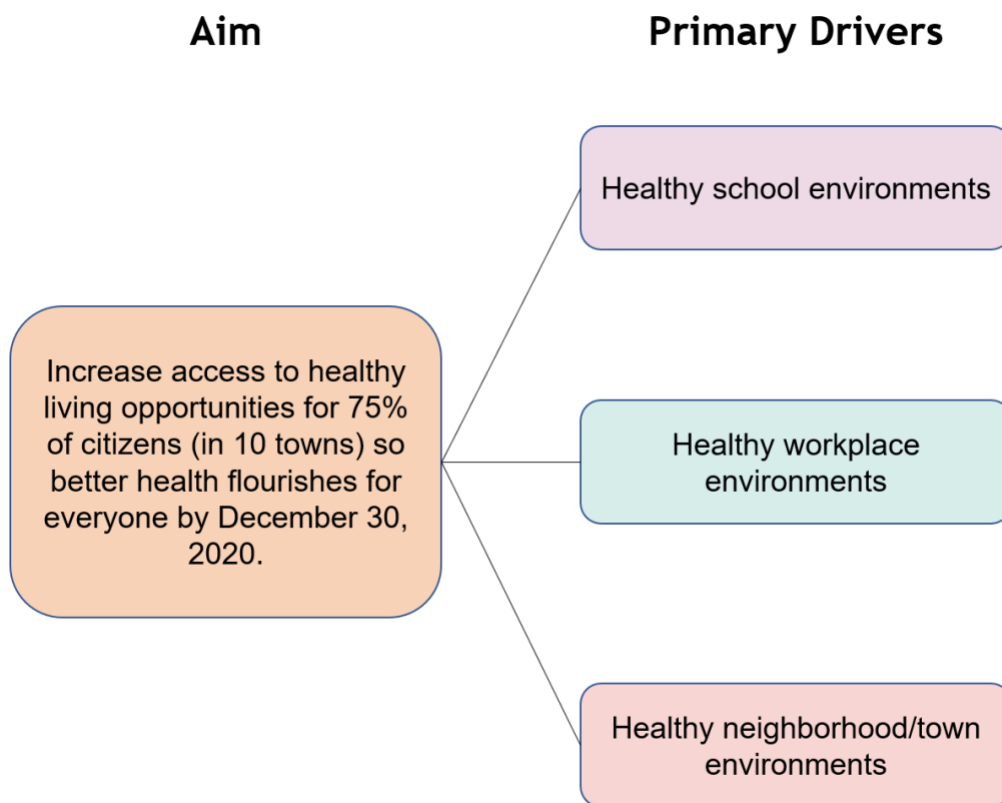

Figure 2: Aim and Primary Drivers of the Healthy Monadnock Driver Diagram
Figure 2 below shows the aim and the primary drivers for the overall Healthy Monadnock driver diagram. The community developed these primary drivers to reflect their theory. Other communities with the same aim may identify different primary drivers. Please see the Lake Sunapee driver diagram in Appendix A to see what primary drivers look like for a project-level driver diagram.
- If the conditions in these drivers are met (e.g., in the example of Figure 2, if the community has healthy school environments, health workplace environments and healthy neighborhood environments), will this allow us to achieve or make measurable progress toward our aim?